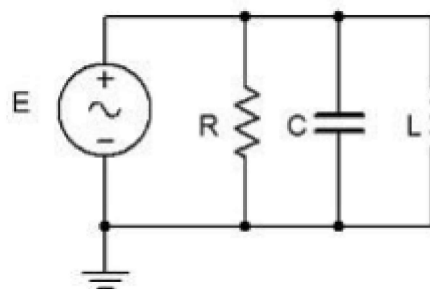

Figure 1
1. Using Figure 1 with a 10 V p-p 10 kHz source, $R=1\text{k}\Omega$, $C=10\text{nF}$ and $L=10\text{mH}$, determine the theoretical capacitive reactance, inductive reactance and circuit impedance, and record the results in Table 1 (the experimental portion of this table will be filled out in step 5). Using the current divider rule, compute the currents in resistor(i_R), inductor(i_L) and capacitor(i_C) and record them in Table 2.
2. Build the circuit of Figure 1 using $R=1\text{k}\Omega$, $L=10\text{mH}$ and $C=10\text{nF}$. A common method to measure current using the oscilloscope is to place a small current sense resistor in line with the current of interest. If the resistor is much smaller than the surrounding reactance it will have a minimal effect on the current. Because the voltage and current of the resistor are always in phase with each other, the relative phase of the current in question must be the same as that of the sensing resistor's voltage. Each of the three circuit currents will be measured separately and with respect to the source in order to determine relative phase.